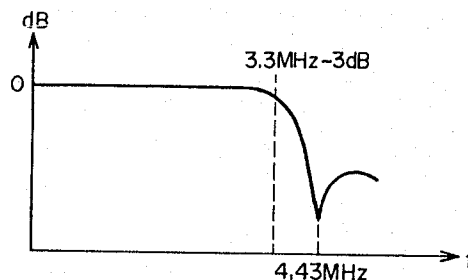

Fig. 53
The signal from AGC partially enters HA11703 as E-E, and is outputted to VIDEO OUT by E-E and PB switching. Fig. 53 shows the characteristic of LCB-52. The signal from the AGC enters REC-Y-LPF LCB-52 and the chroma signal of 4.43 MHz is removed. Since VS-5 does not change the band by color and B/W, the signal always passes this filter. Therefore, Pin ② (Color-B/W change-over) of AN6310 is connected to Vcc and no change-over is made. Phase characteristic is improved because REC and PB are not using a same LPF.